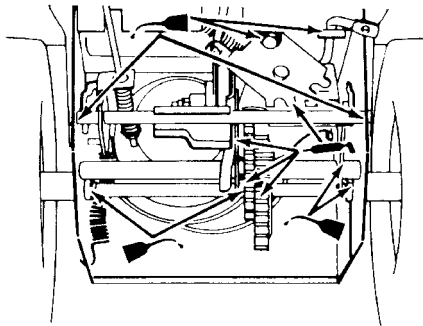

Figure 29
5. Lightly lubricate the snowthrower with light oil as shown in Figure 29.
6. Grease the snowthrower as shown in Figure 29.